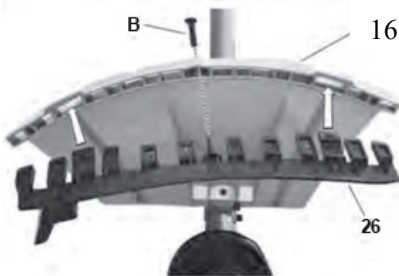
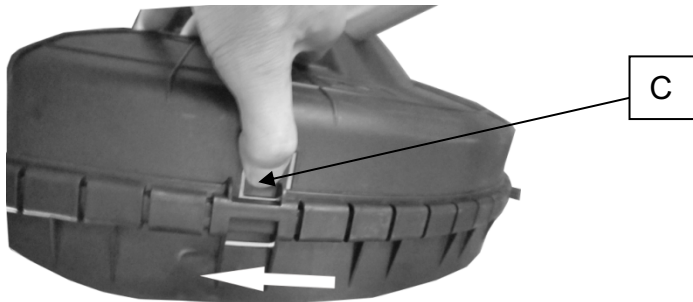

Fig.3-3
Fig.3-4
**3.3 When using the cutting line head, the additional guard, with line cutting knife, must always be fitted. (Fig.3-3, Fig.3-4)**
- Secure the additional guard (26) using the screw (B). (Fig.3-3)
- Screw off the screw (B); (Fig. 3-3)
- Push the clip (C) , and pull out the additional guard. (Fig.3-4)